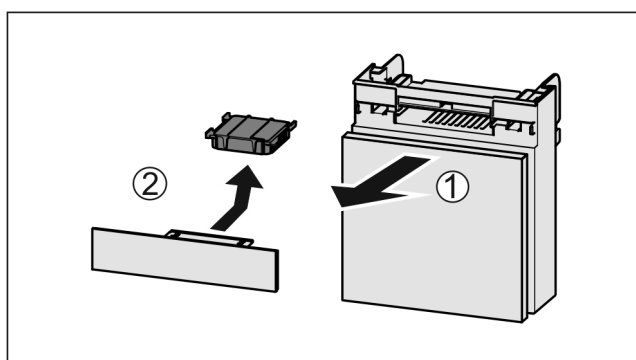

Fig. 133
- ▶ Pull out the compartment Fig. 133 (1).
- ▶ Remove the carbon filter Fig. 133 (2).